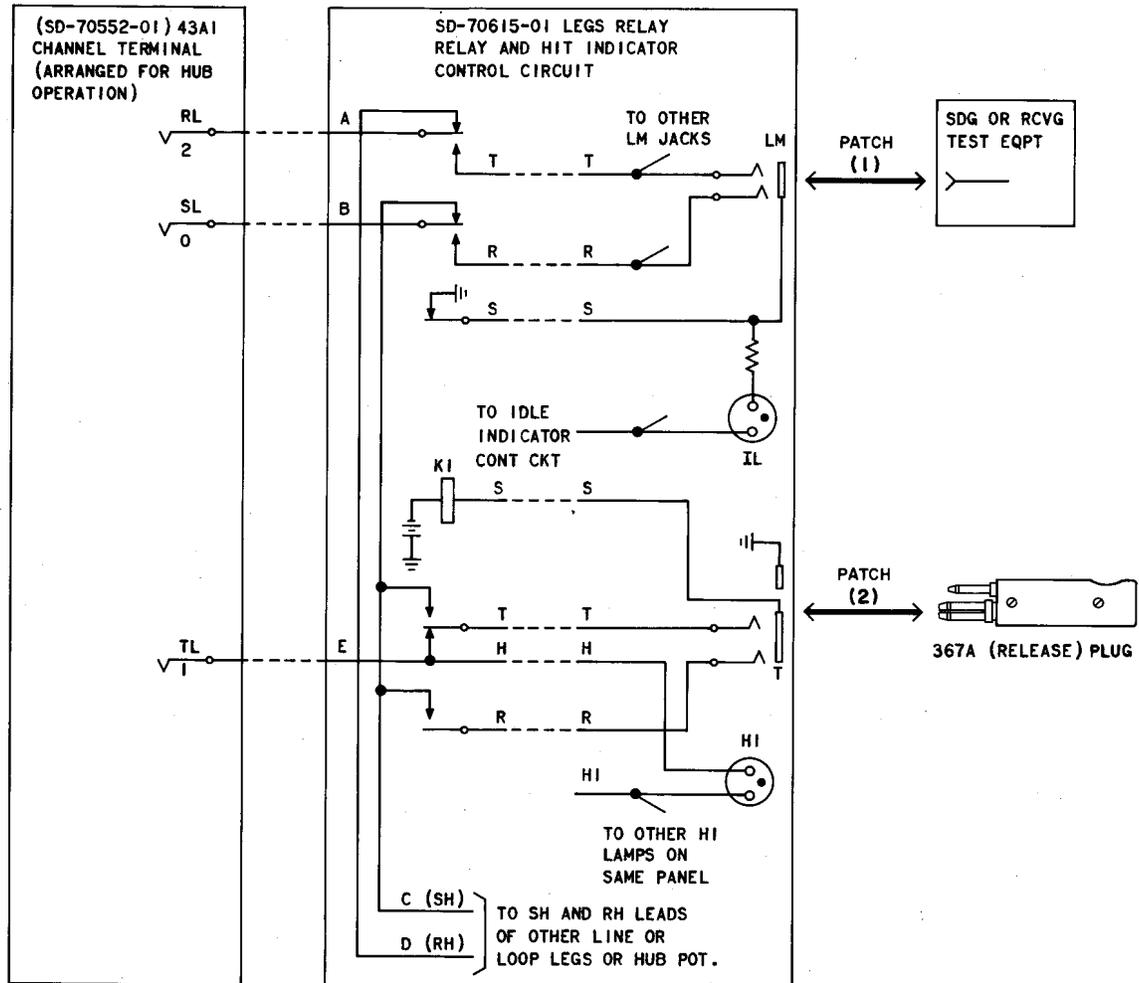

Fig. 13—Test O Connections—Hub Channel Terminal
Connect the 911-type TSG output to the LM jack [patch (1) of Fig. 13] associated with the channel under test.
- 6d Insert a 367A (release) plug into the T jack [patch (2) of Fig. 13] associated with the channel under test.
Connect the 911-type DMS input to the LM jack [patch (1) of Fig. 13] associated with the channel terminal under test.
11g	Insert the 367A (release) plug into the T jack [patch (2) of Fig. 13] associated with the channel terminal under test.
- 18j Insert a 367A (release) plug into the T jack [patch (2) of Fig. 13] associated with the channel under test.